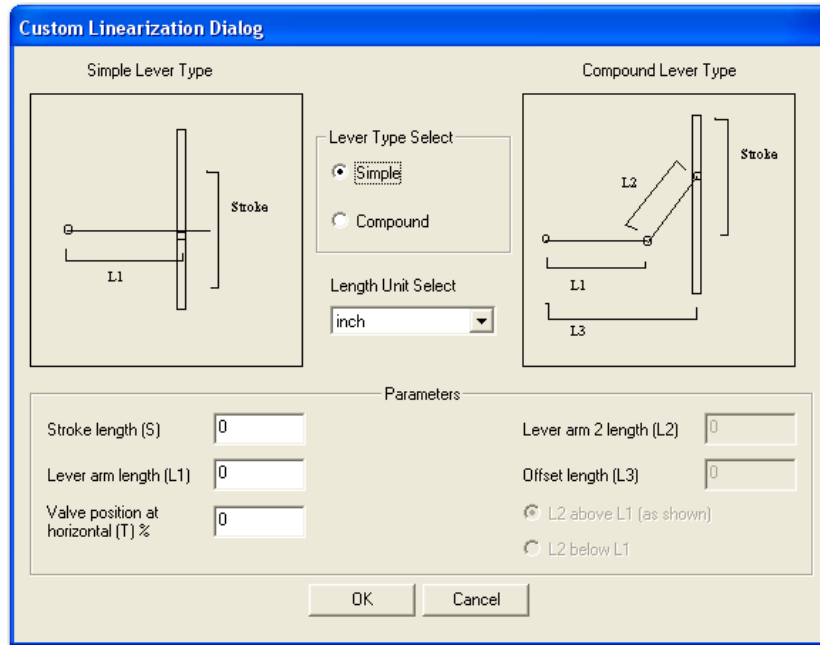

Figure 30 Custom Linearization
1. Select **Custom Linearization** from the *Custom Characterization* dialog and Figure 30 dialog appears.